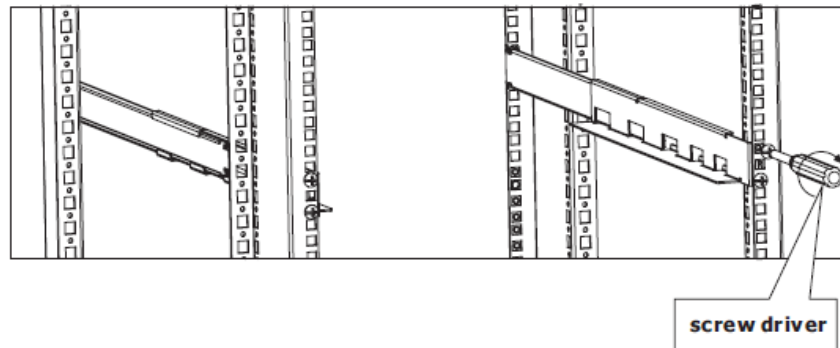

Figure 5
Step 1: Use 4 M6 screws to mount the right and left rail sliders to the two front posts of the four-post rack. Refer to Figure 5 below.